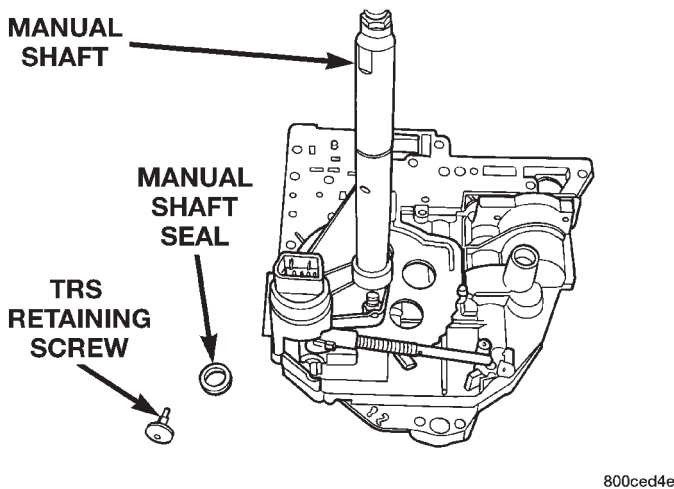

Fig. 36 Remove Manual Shaft Seal
- (13) Remove manual shaft seal (Fig. 36).